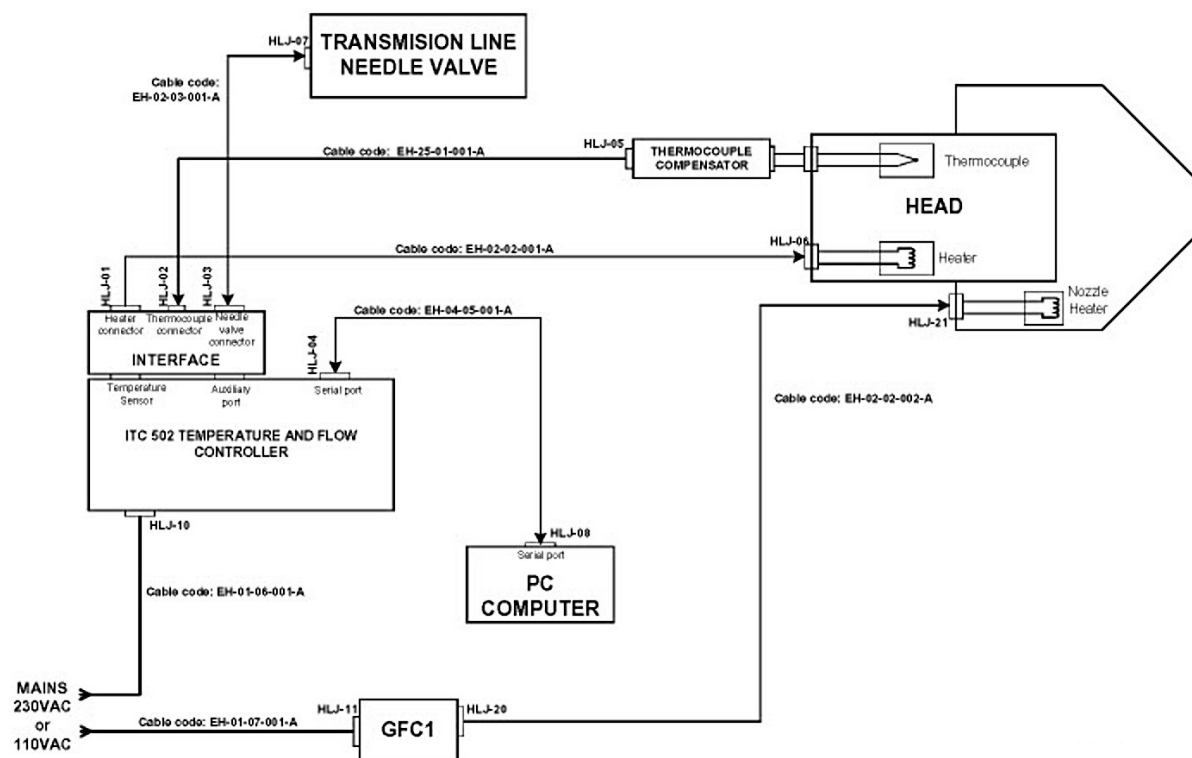

Figure 6-1 Helijet Electrical Connections
- Ensure that the ITC temperature controller is connected correctly (see Figure 6-1 Helijet Electrical Connections).
Ensure that all electrical connections are made as described in Figure 6-1 Helijet Electrical Connections and that the power is on to both the ITC and the GFC1. Ensure that all Teflon tubes